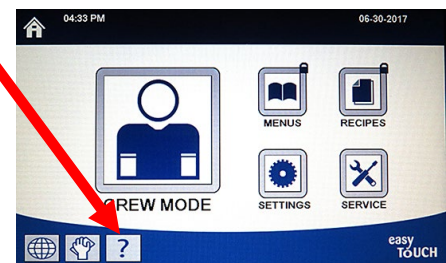

Figure 16
13. Press the **?** button (see Figure 16).